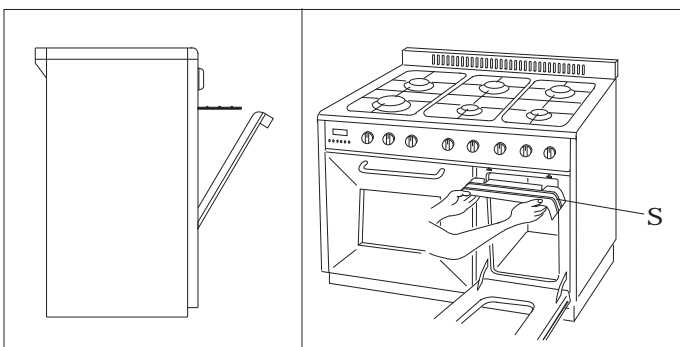

Fig. 6
- Fit the knobs deflector S and place the door in half-open position see fig. 6 .
In this case the deflector S shown in fig. 6 is not supplied.